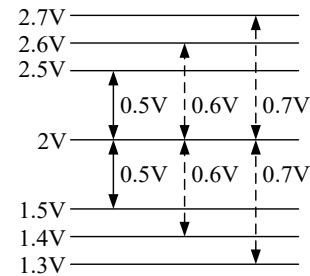
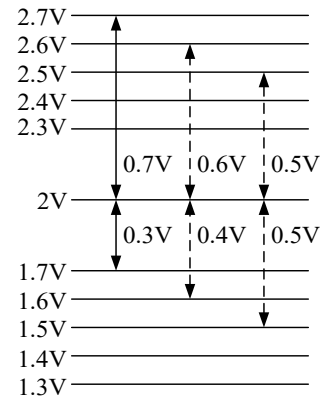

Figure 15. Adjust  $R_{IC}$  or  $R_{VC}$
Figure 16. Adjust  $R_{ILM}$  or  $R_{VLM}$
2. Set output voltage limit. Adjust the potentiometer  $R_{VC}$  to set the voltage limit. TP VLIM is the test point for  $R_{VC}$ . After the VLM is tuned properly, adjust  $R_{VLM}$  to achieve different voltage limit for heating and cooling. As is shown in Figure 15 and Figure 16.
3. Set output current limit. Adjust the potentiometer  $R_{IC}$  to set the current limit. TP ILIM is the test point for  $R_{IC}$ . After the current limit is tuned properly, adjust  $R_{ILM}$  to achieve different ILM for heating and cooling. As is shown in Figure 15 and Figure 16.